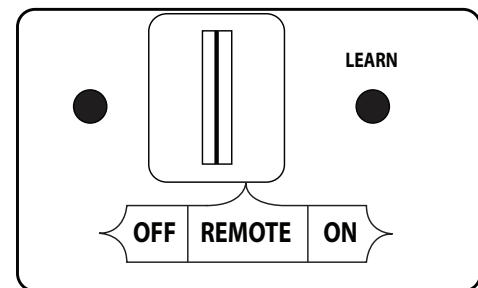

Fig. 35-2 Remote receiver (OFF for Manual Light)
1. Ensure the pilot is burning. If equipped, locate the 3-position switch on the remote receiver (see Fig. 35-2), and slide the switch to the **OFF** position.